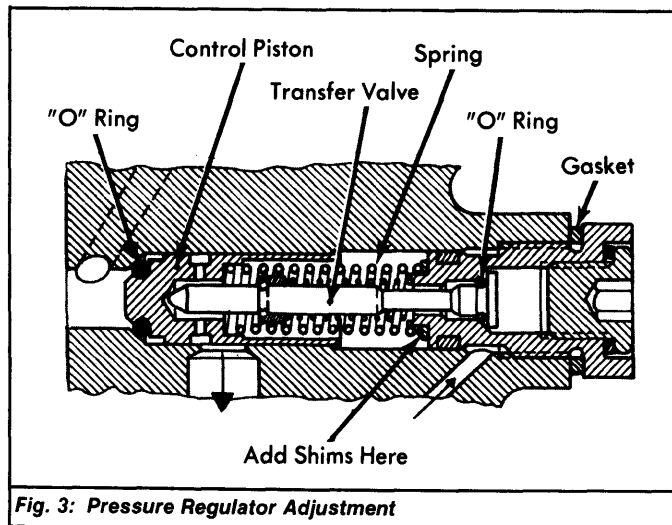

Fig. 3: Pressure Regulator Adjustment
- 6) Transfer valve should open at 50-57 psi (3.5-4.0 kg/cm²). See Fig. 3. If not, engine will be difficult to start. Check by replacing valve and restarting engine.